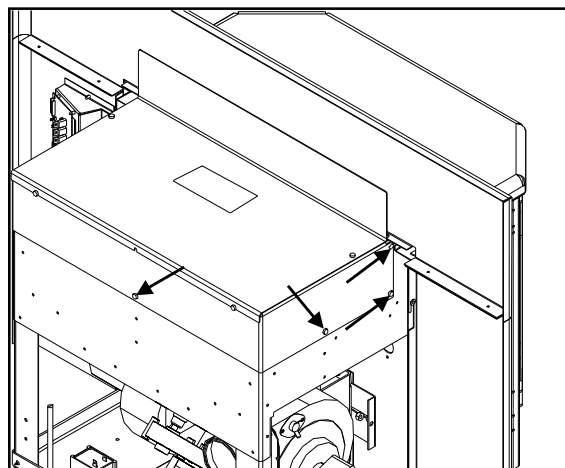

Figure 25: Hopper Extension Screw Placement.
To change the height of the hopper back up or down, remove the seven (7) T-20 screws, three (3) on each side and one (1) on the back. The screw placement is shown Figure 25. Move the hopper assembly to the required setting and replace the screws. When the hopper back is in place it is recommended that silicone is used to seal the bottom lip of the hopper back and sides.